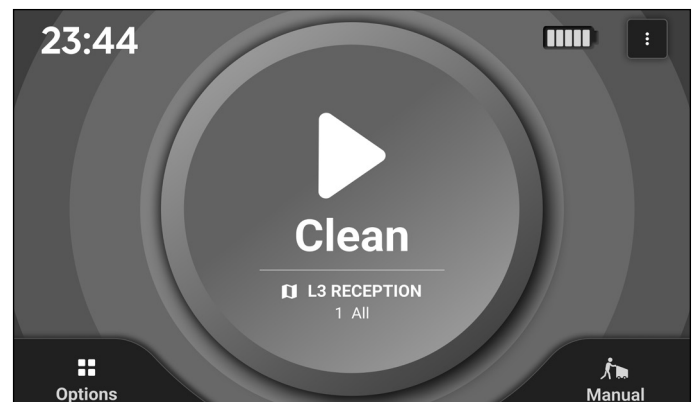

Figure 51
1. Check the battery level from the Home Page on the touchscreen (**Fig. 51**).